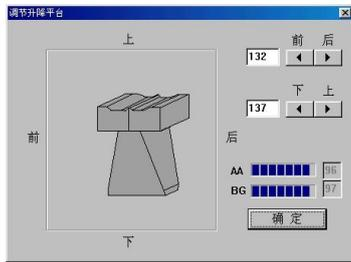

Figure 2-30
10. Back to the ”Furnace Control” window,select the “Set lift platform”(Figure 2-30)